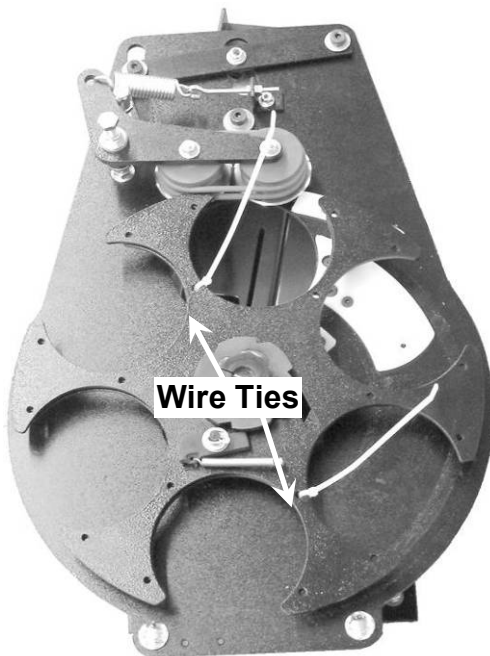

Figure 5 – Magazine Plates
The magazine ships unassembled. The top and bottom magazine plates are shipped attached to the Trap body (FIGURE 5). The magazine rods, stubs and screws are shipped in the hardware carton inside the shipping box.
3. Separate the top and bottom magazine plates by removing the cardboard, protective wrapping, and the wire ties that secure them to each other (FIGURE 5).